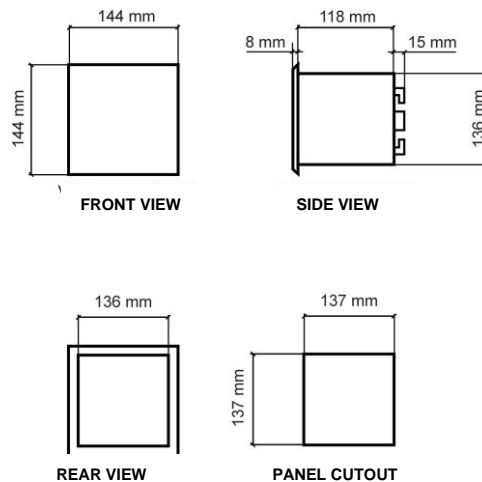

Figure 2.1 - SMPR overall dimensions
3. Make a cutout in the panelboard of: 137 x 137 mm [→ Fig. 2.1] and fix the relay by using the fixing elements provided with the relay.